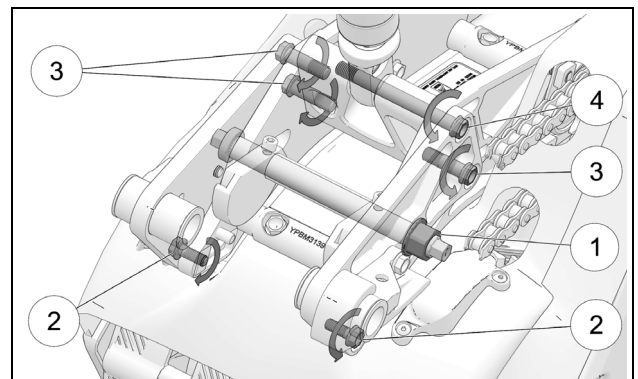

Figure 43
- Loosen eccentric bolt nut (1) a little using the special socket provided in your YETI SnowMX parts kit. Figure 43.
- Loosen slightly, the two M8 bolts (2), and the four M10 bolts (3-4) on each side of the Bike Mount so that the Bike Mount assembly can slide. Figure 43.